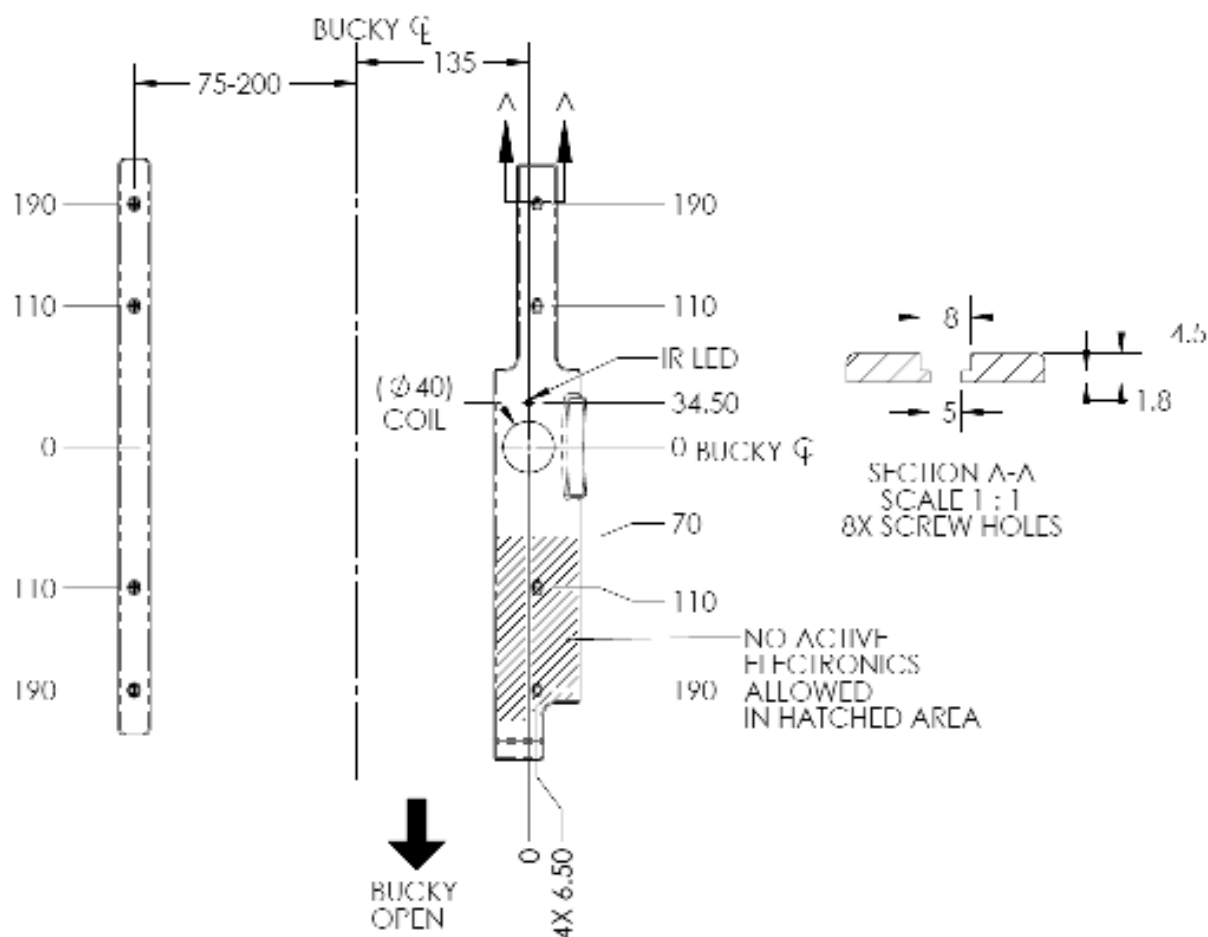
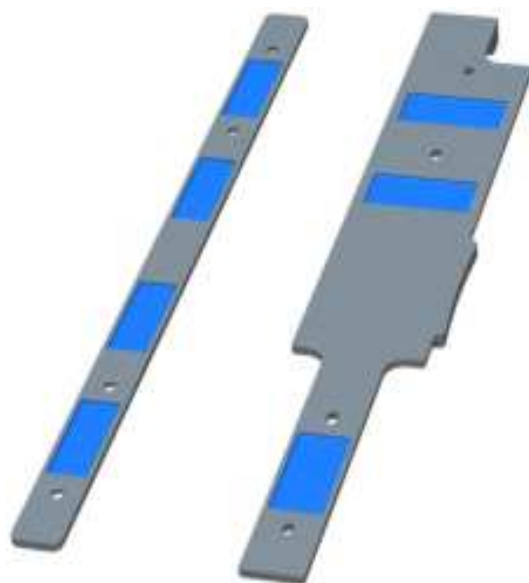
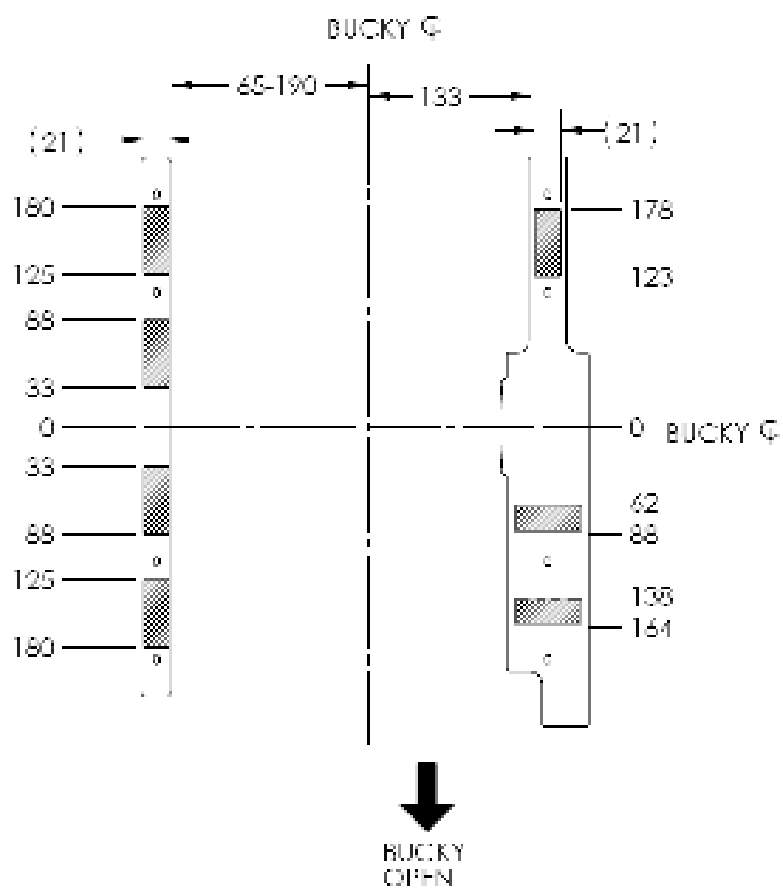

Figure 16 Varex Inductive Battery Charger Dimensions (in mm) and Mounting Hole Locations (4343W and 4336W-G5 and 2530W-G5)
Figure 17 VHB Tape Placement Locations on Varex Inductive Battery Charger
Figure 18 VHB Tape Placement Dimension on Varex Inductive Battery Charger
- 2 Self-tapping screws with washers, machine screws with washers into PEM nuts (installed on the bucky tray), or 1mm (thickness) VHB Tape may be used to attach the Varex Inductive Battery Charger and Detector Support into the bucky tray. Use Figure 16, Figure 17, and Figure 18 for mounting locations.